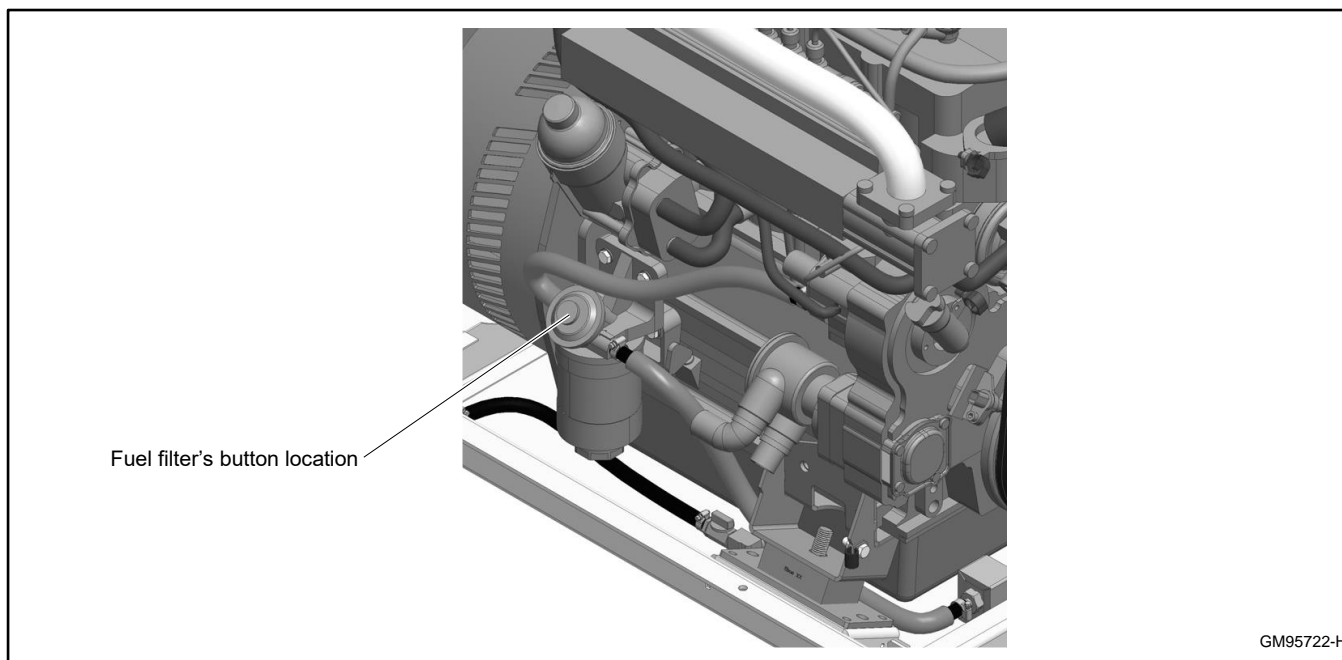

Figure 34 Fuel Filter's Button
12. **Bleed Procedure.** Push repeatedly the button on the fuel filter support to fill and bleed the fuel system. See Figure 34.